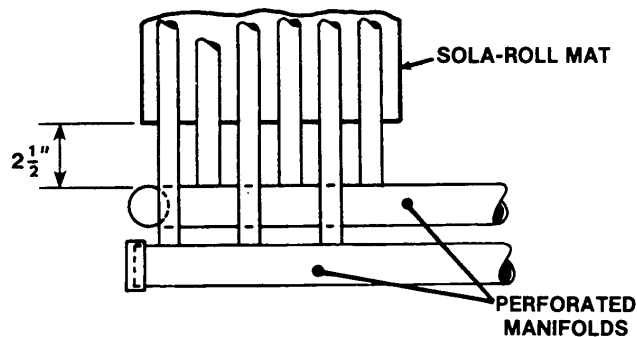

FIGURE 10 — TAKE DIMENSIONS AT HEADER END
23. Remove the webbing between the tubes to a point 2 inches above the top header (Figure 10).